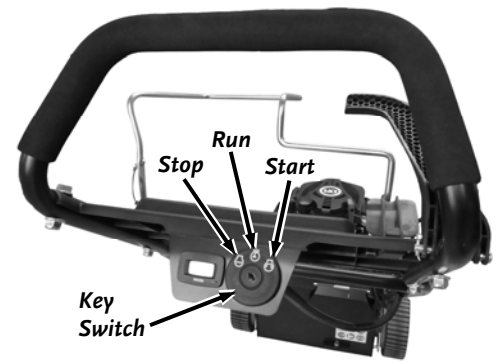

Figure 10
1. Stand behind the Mower and turn the Key Switch to the “Start” position to start the engine (**Figure 10**). As soon as the Engine starts, release the Key and it will return to the “RUN” position.
1. Turn the Key to the “STOP” position (**Figure 10**).